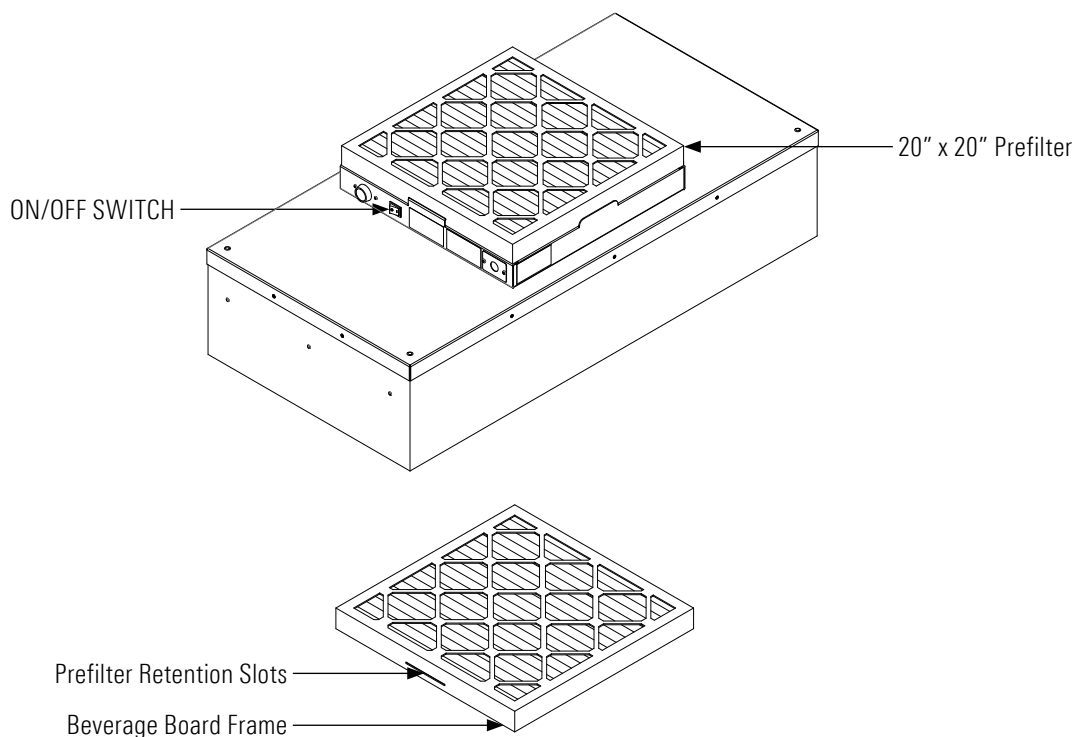

FIGURE 5: G4 PREFILTER PLACEMENT
**Step 3.** Remove the prefilter from the snap-in frame. The beverage board frame has slots that have to be depressed to release the filter from the prefilter housing (See Figure 5, below.)